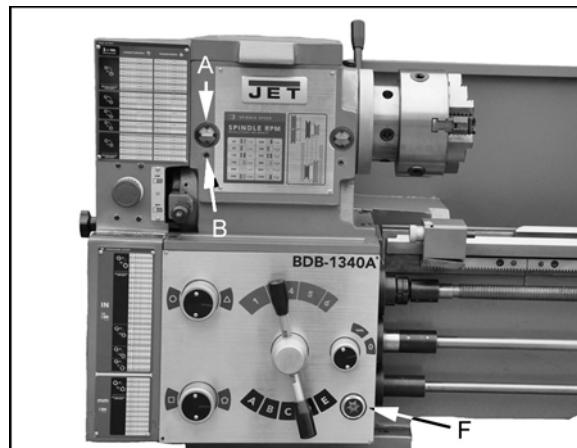
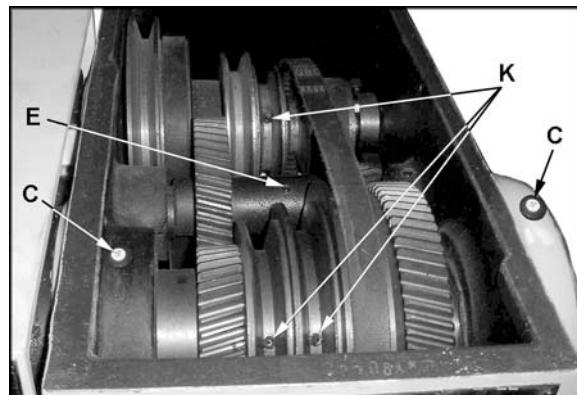
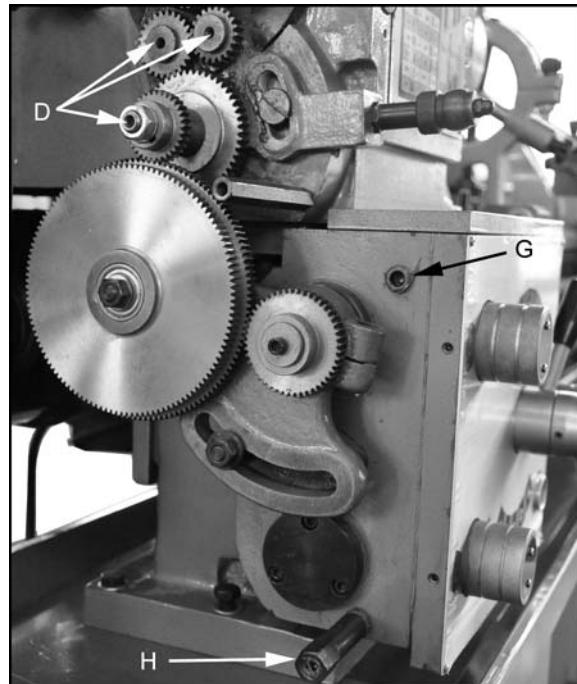

Figure 5
Figure 6
Figure 7
1. **Headstock** - Oil must be up to indicator mark in both oil sight glasses (A, Fig. 5). Top off with Mobil DTE® Oil Heavy Medium. The headstock should be drained and refilled after the first three months of operation. Then, change oil in the headstock annually.
Drain oil completely by removing drain plugs (B, Fig. 5). Also loosen the three set screws in the pulleys (K, Fig. 6) and shaft (E, Fig. 6) and drain the oil from these. When done, retighten the set screws (K,E) and re-insert the drain plugs (B). Refill by removing fill plugs (C, Fig. 6). Grease three fittings (D, Fig. 7) with Mobil 1® Synthetic Universal Grease daily.
2. **External Gears** - Coat all gears with a heavy, non-slinging grease, see Figure 7.
3. **Center Back Gear Shaft** - Remove the set screw on the shaft (E, Fig. 6) and oil with a couple of drops of Mobil DTE® Oil Heavy Medium once weekly.
4. **Quick Change Gearbox** - Oil must be up to indicator mark in oil sight glass (F, Fig. 5). Top off with Mobil DTE® Oil Heavy Medium. Fill by removing plug (G, Fig. 7). Drain oil by removing drain plug (H, Fig. 7) and refill after the first month of operation. Then, change oil in the gearbox annually.